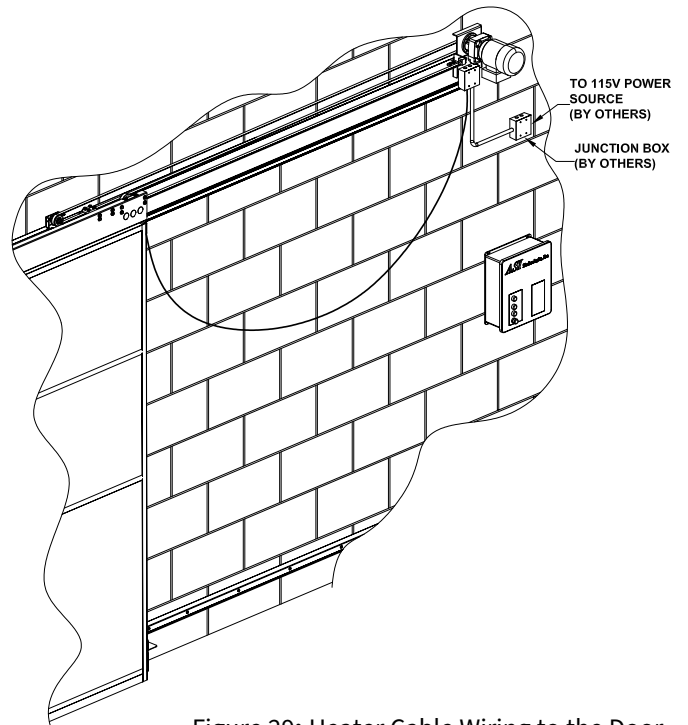

Figure 29: Heater Cable Wiring to the Door
9. Run 115V GFCI (typical) power to junction box (Figure 29).